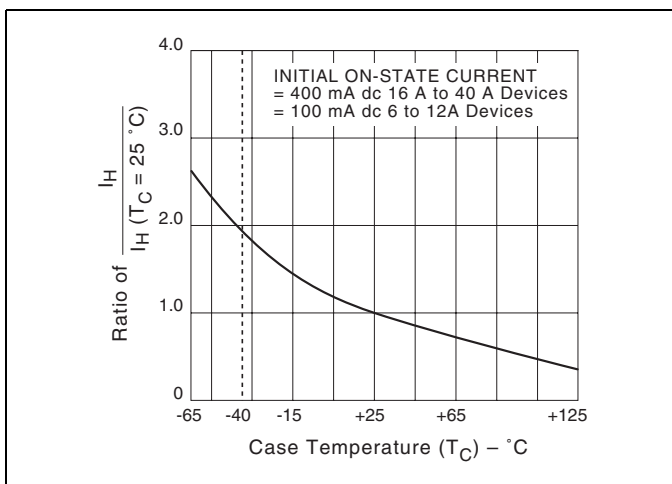

Figure E4.9 Normalized DC Holding Current versus Case Temperature
- See Figure E4.9 for I_H versus T_C .